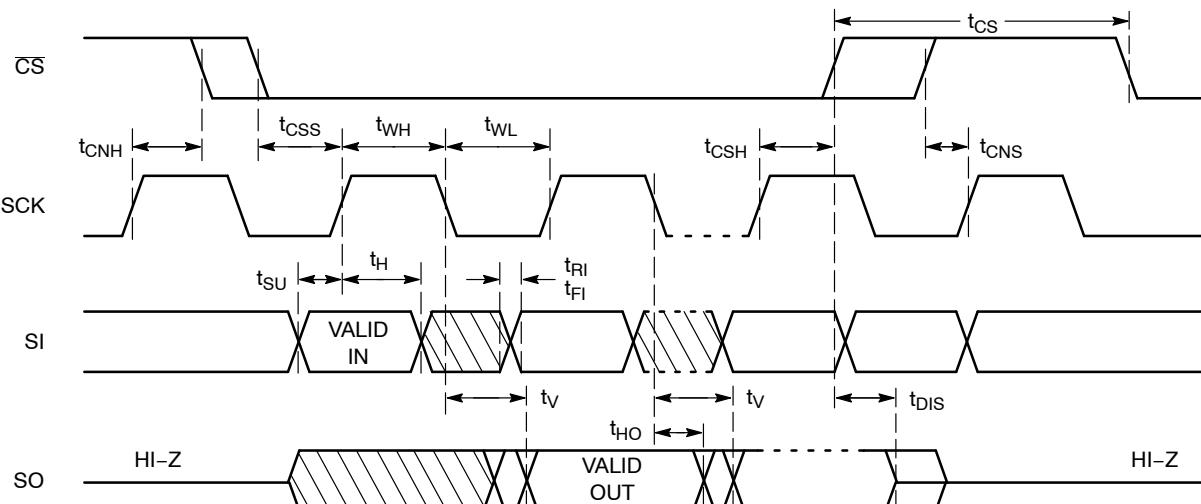

Figure 2. Synchronous Data Timing
6. t_{PUR} and t_{PUW} are the delays required from the time V_{CC} is stable until the specified operation can be initiated.7. t_{WC} is the time from the rising edge of CS after a valid write sequence to the end of the internal write cycle.8. All Chip Select (CS) timing parameters are defined relative to the positive clock edge (Figure 2). t_{CSH} timing specification is valid for die revision D and higher. The die revision D is identified by letter "D" or a dedicated marking code on top of the package. For previous product revision (Rev. C) the t_{CSH} is defined relative to the negative clock edge (please refer to data sheet Doc. No. MD-1006 Rev. U)
After a high to low transition on the \overline{CS} input pin, the CAT25010/20/40 will accept any one of the six instruction op-codes listed in Table 9 and will ignore all other possible 8-bit combinations. The communication protocol follows the timing from Figure 2.